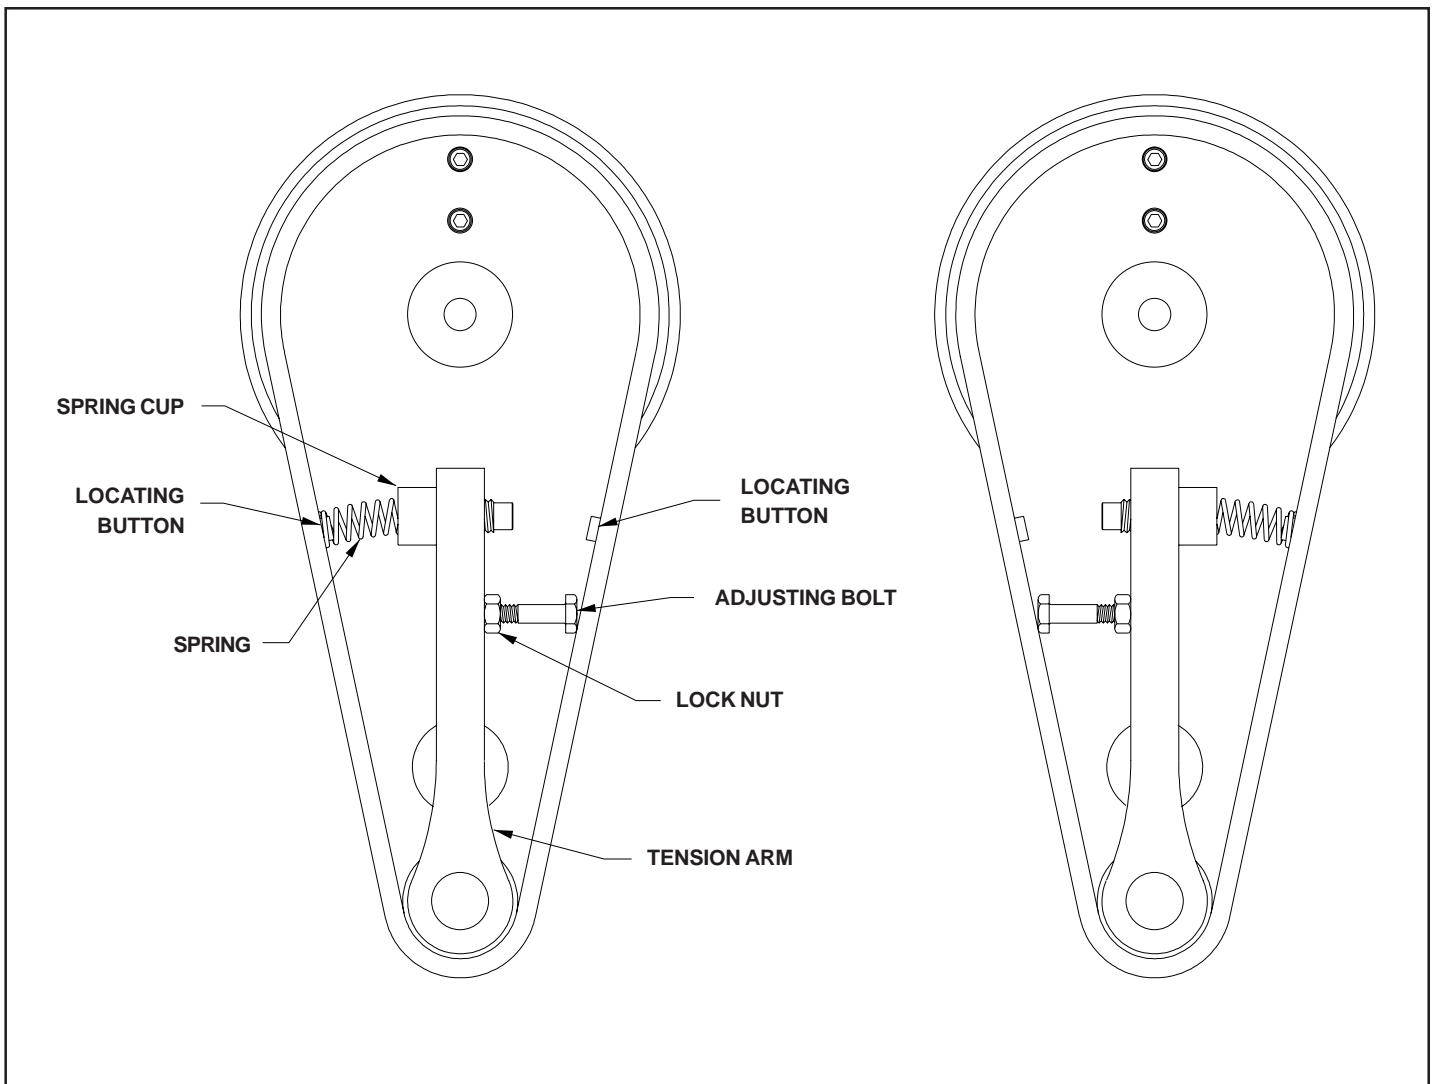

FIGURE 37
- 1- Loosen the Lock Nut and screw the Adjusting Bolt in to relieve the spring pressure (Figure 37).